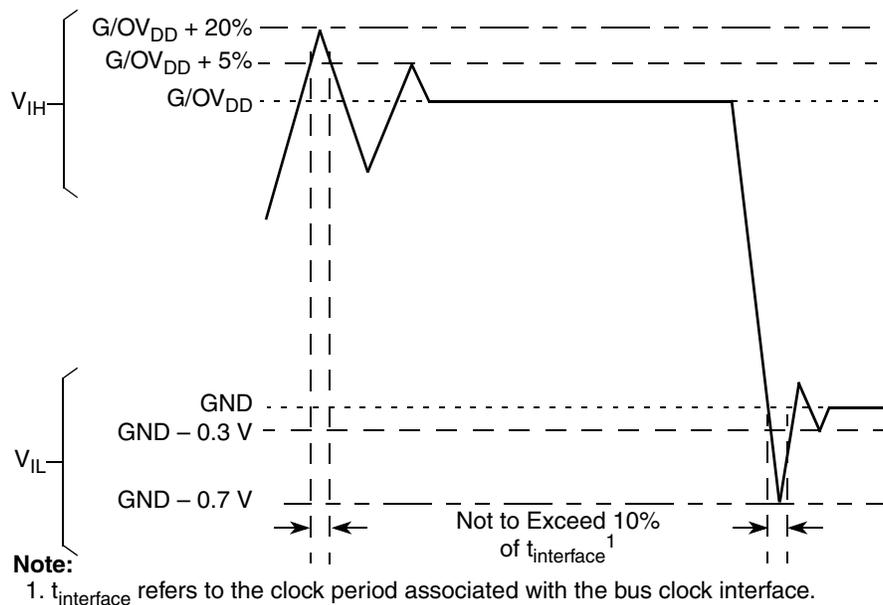

Figure 2. Overshoot/Undershoot Voltage for GV_{DD}/OV_{DD}
- (M,O) V_{IN} and MV_{REF} may overshoot/undershoot to a voltage and for a maximum duration as shown in Figure 2.
Figure 2 shows the overshoot and undershoot voltages at the interfaces of the MPC8323E.